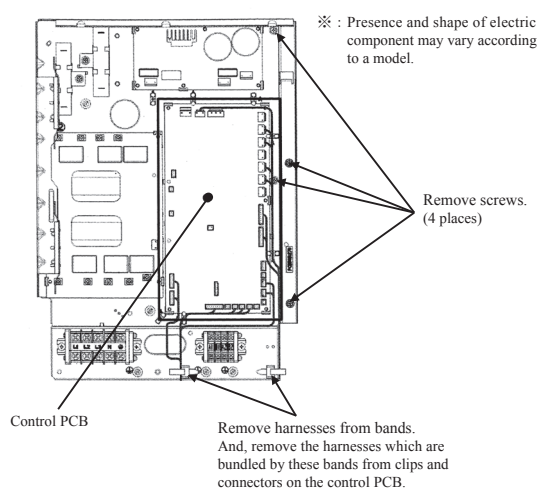

Fig.3 Target places which are removed harnesses and screws
- 3) Remove the harnesses from bands, clips and connectors on the control PCB. Then, remove the appointed screws (4 places) of a control. (Refer to Fig.3)